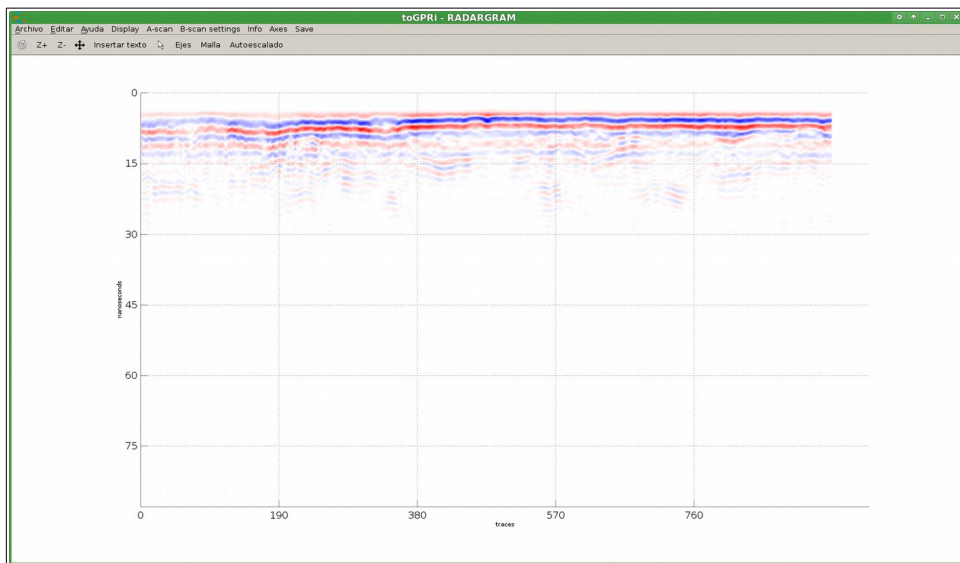

Figure 11. Time and traces (simple grid on).
**Time and traces** displays the time window vertical axis in nanoseconds and the horizontal axis in the number of traces (figure 11).